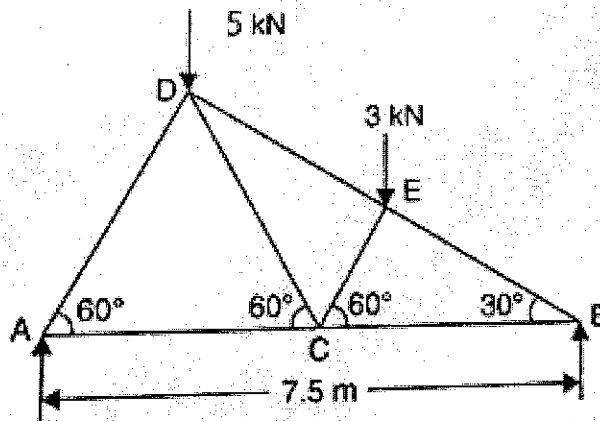

Figure 7
14. Analyse the truss shown in Figure 7 by method of joints